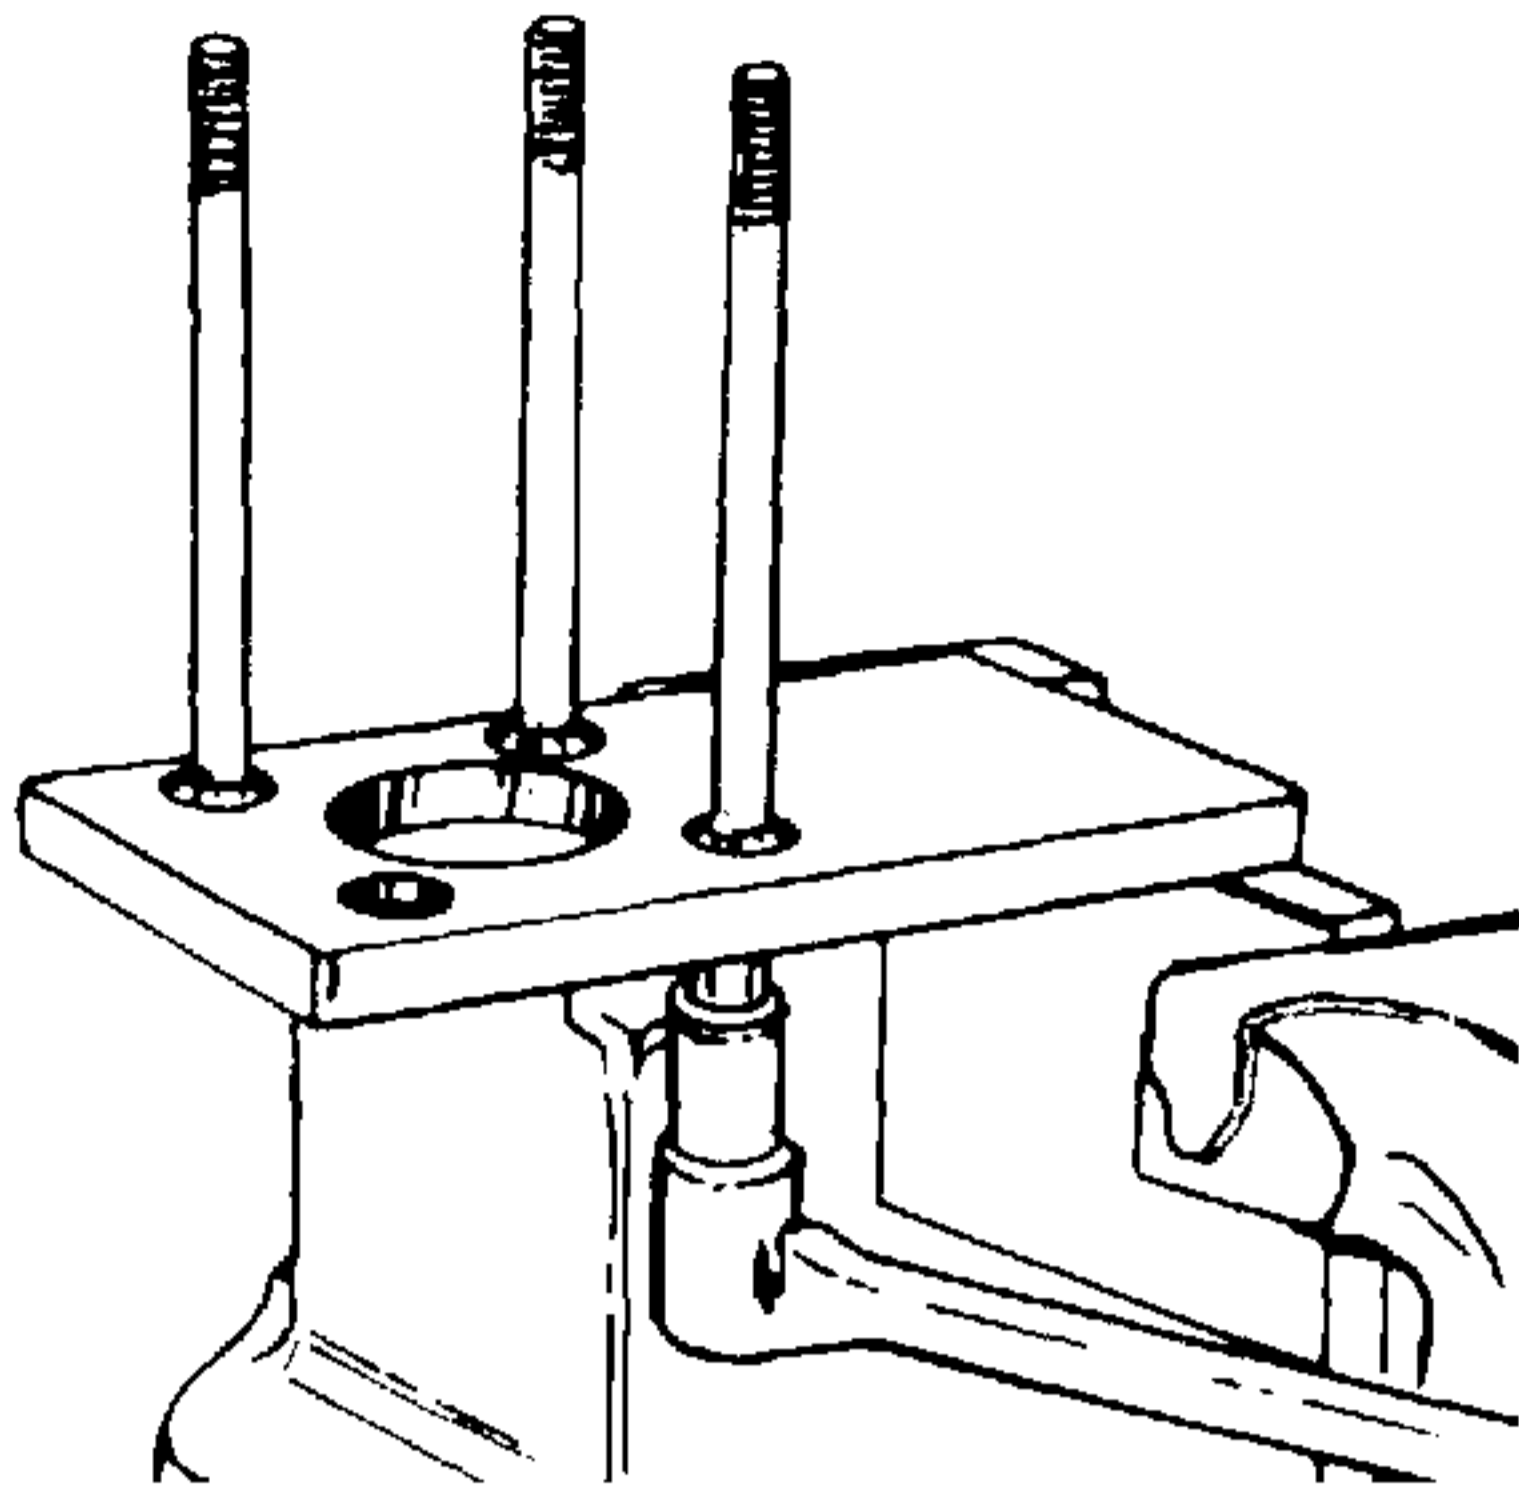

Figure 4-45. Installing Special Bolts.
1. Place four special bolts (38) into fixture with shortest threaded end of bolts through the fixture holes. Secure bolts to fixture with four 5/16-24 UNF nuts. Tighten nuts to secure assembly to fixture but loose enough to turn bolts and facilitate stacking of components. See Figure 4-45.